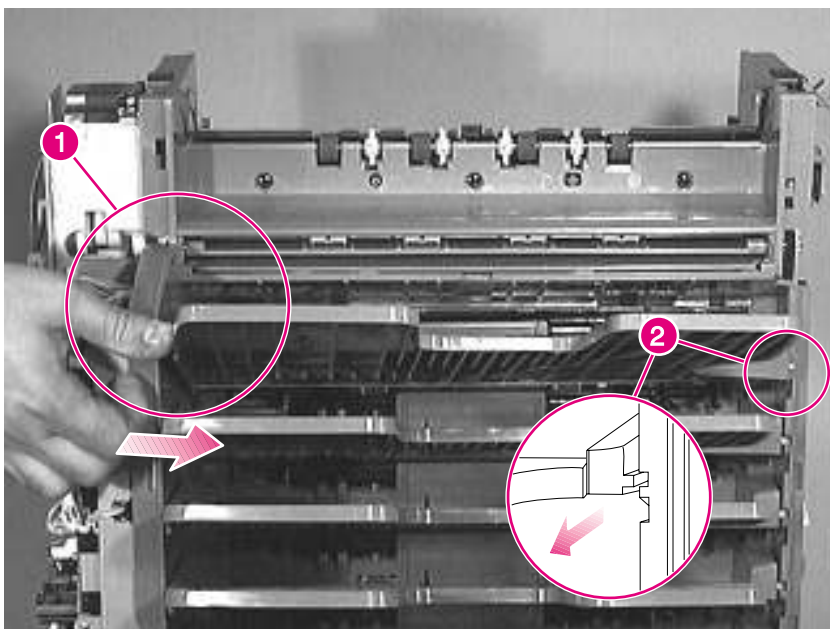

Figure 6-132 Face-down Bins (2 of 3)
- 1 Guide the empty bin sensor in the slot at the back side (figure 6-132, callout 1).